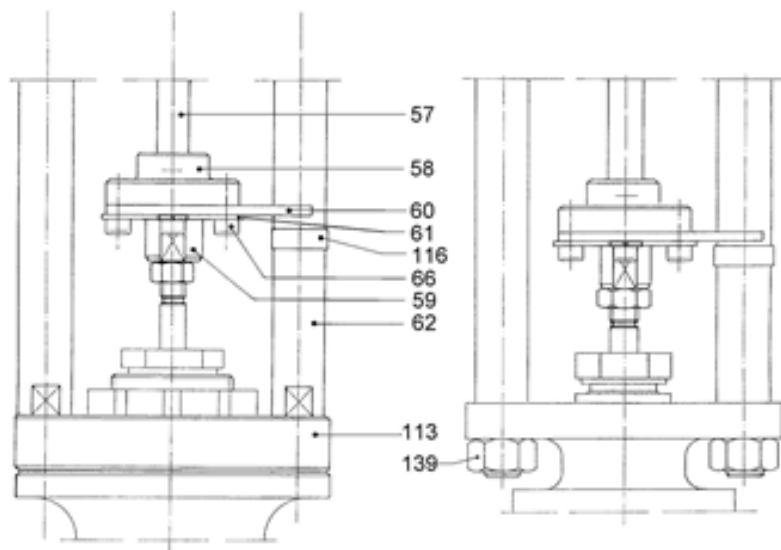

Figure 5.21: Coupling / mounting the actuator onto a valve
- Assemble the coupling according to figure 5.21: